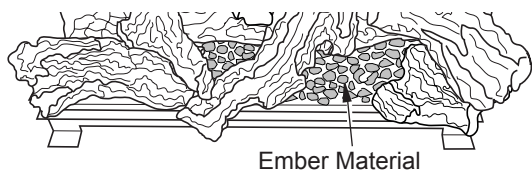

Figure 48 - Placing Ember Material on Burner
- Pull ember material apart into pieces no larger than a dime. Place these pieces loosely and sparingly directly onto the exposed front section of the burner (see Figure 48). This will create the glowing ember appearance as the flame touches the ember material. Do not block air slots by using too much ember material in one area. It is not necessary to use all of the ember material provided.